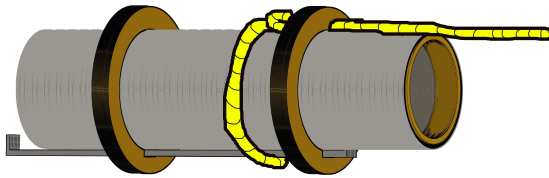

Figure 3
- **Step 8** Tie a slip knot in one end of the Kevlar thread, then loop the knot around the middle of the mount as shown in Figure 3. Push the long end of the thread through the "V" notch of the "B" ring, and pull out the slack. Push the thread up against the back of the "B" ring tightly, then apply glue to the ring and thread to secure it. Allow to dry.